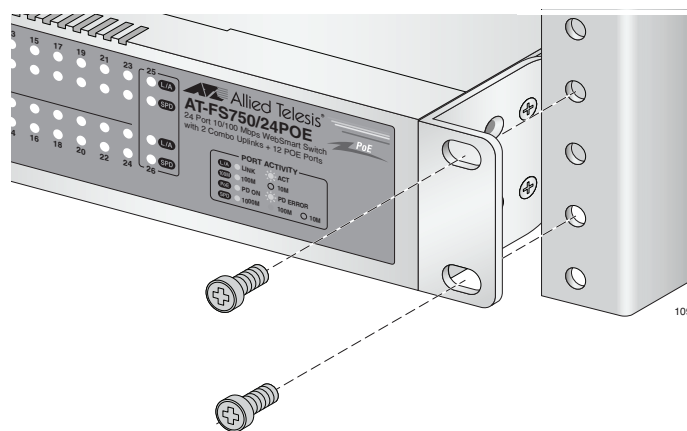

Figure 10. Mounting the Switch on the Rack
4. Mount the switch on a 19-inch rack, as shown in Figure 10.